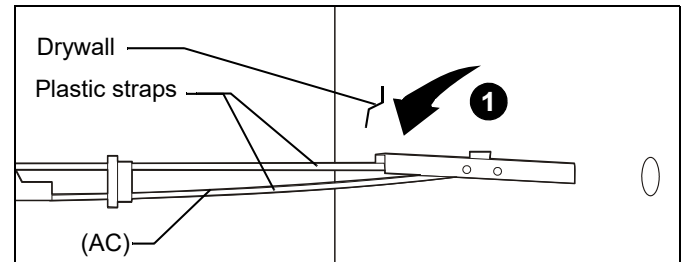

**Figure 20**
1. Install one UX10X60R anchor (AF) into each pilot hole using a hammer, making sure that the anchor is flush with the wall. (See Figure 20)
2. Use one 5/16" x 2-1/2" hex flange head lag bolt (AA) and one 5/16" washer (AB) through product into each anchor in wall. (See Figure 20)